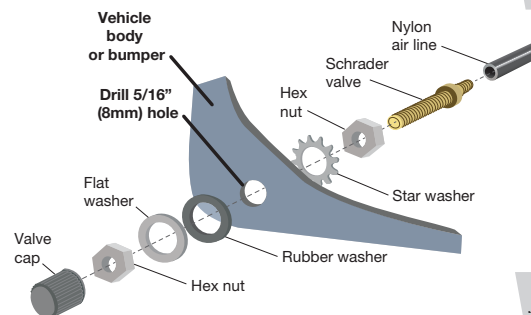

fig. D.3
3. Install the Schrader valve in the chosen location (Fig. D.3).